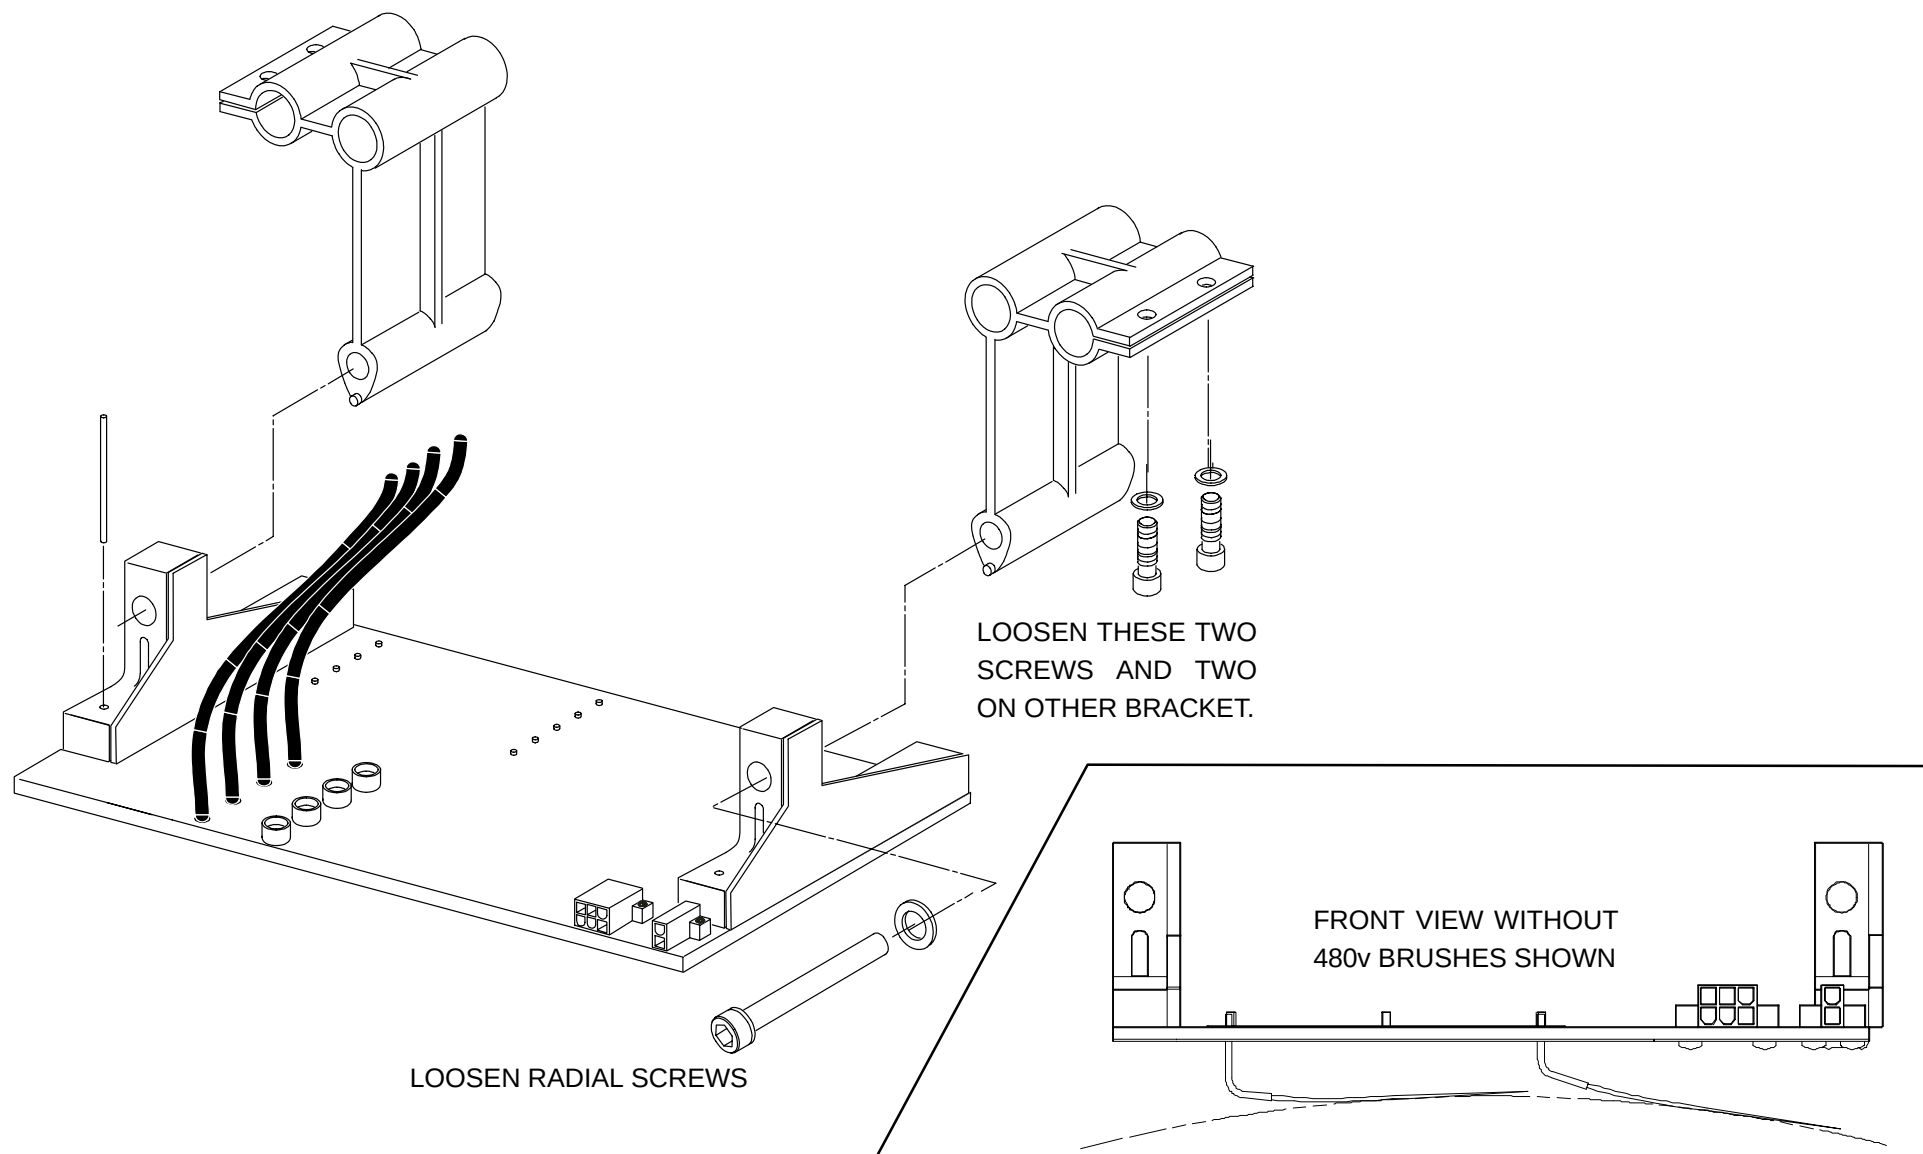

FIGURE 97 POWER BRUSH BLOCK
2. Insert the two alignment pins into the holes provided on the brush block assembly. Refer to Figure 97. These two pins should fall into the inner air gap on the slip ring assembly.
3. Loosen the two **radial** mounting screws (Figure 97).